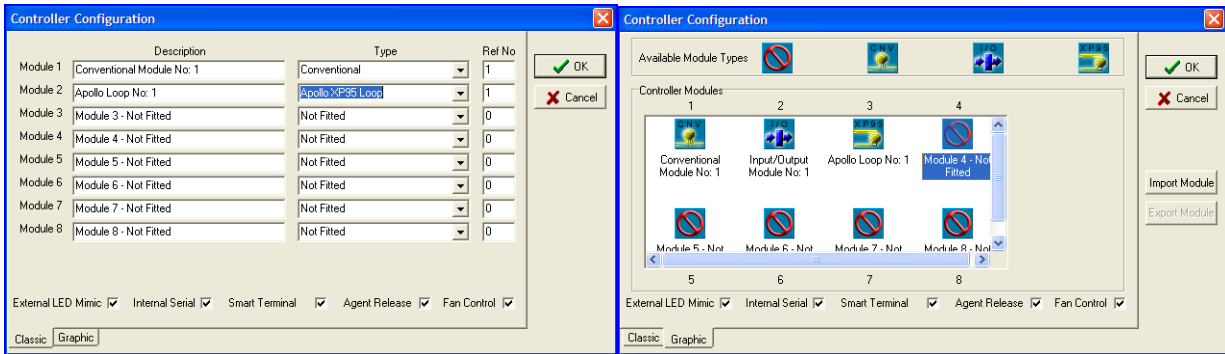

Figure 107: The Controller Edit / Add Module Types Screens
See Figure 107
- A loss of communications with the FACP (indicated by the "DIAGNOSTIC" LED – not flashing and the "no communications" message being displayed. See Figure 107)